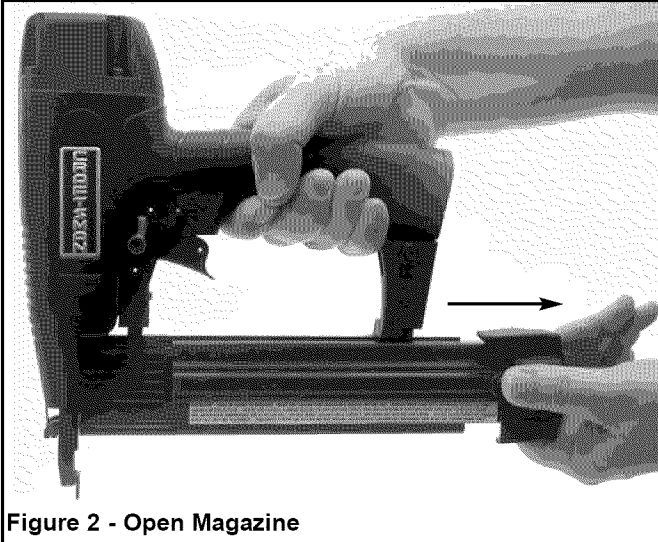

Figure 2 - Open Magazine
Refer to Figures 2, 3, 4 & 5.
- Depress latch and slide magazine cover open (see Figure 2).